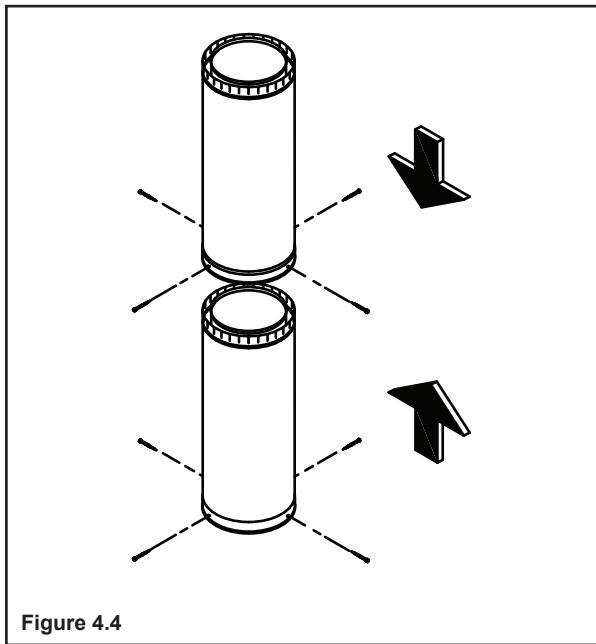

Figure 4.4
- For each additional chimney section use four of the sheet metal screws provided to make a secure connection between the chimney sections (Figure 4.4). Do not penetrate the inner liner of the chimney.